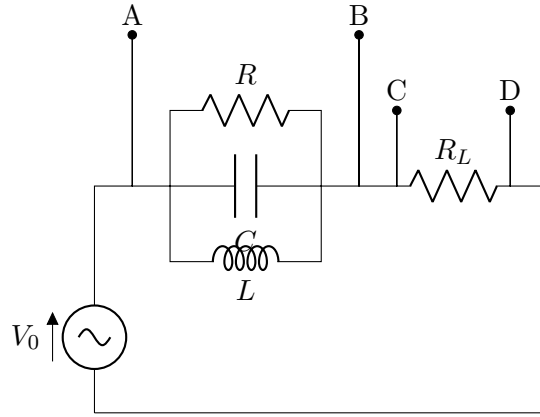

Figure 5: LCR Parallel Resonance circuit
5. Now, construct a **parallel-LCR circuit** as shown in Figure 5.